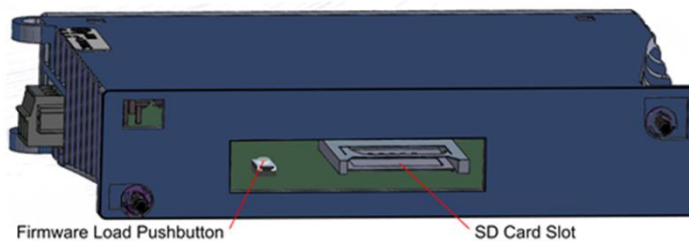

Figure 8: Rear View of GCG001
The SD card slot is designed to support a Secure Digital (SD) non-volatile memory card in standard capacity format. This optional card has two distinct uses: (1) backup storage of some key PROFINET configuration data and (2) loading new GCG001 module firmware. Insert the SD Card into its slot at the rear of the GCG001 before mounting the module, as shown in Figure 8.
Refer to the rear view of the GCG001 module shown in Figure 8 (above). Whenever the GCG001 firmware needs to be updated, remove the SD card from its slot at the rear of the module, then install the SD Card in your PC and copy the new firmware to the SD Card. The ZIP file containing the GCG001 firmware upgrade may be found on the GE Automation & Controls Product Support web-site <http://www.geautomation.com>\_Unzip the file as shown in the following figure.
After the SD card has received an update of the GCG001 firmware, install the SD card in its slot (see Figure 8). Note that the GCG001 must not be powered up while installing the SD Card. Next, while holding down the Firmware Load Pushbutton (see Figure 8), apply power to the module. This action causes the firmware to be copied from the SD Card to the GCG001 module itself. Continue holding the pushbutton until the OK LED turns amber, then release the pushbutton. When the OK LED turns green, the firmware has been loaded. Cycle power on the module and wait for the OK LED to turn green and steady. The module is then ready to be properly mounted (see section 1.7.1).